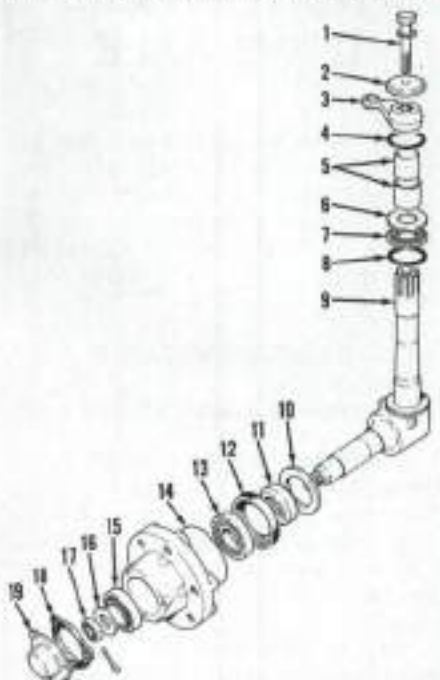

Fig. 1—Exploded view of typical front spindle assembly showing component parts and their relative positions.
1. A typical front wheel spindle, wheel hub and bearing assembly are shown in Fig. 1.
To adjust wheel bearings, tighten slotted nut (17—Fig. 1) to 95 N·m (70 ft.-lbs.) torque while turning the wheel. Loosen the nut, then retighten to 40 N·m (30 ft.-lbs.) torque while turning the wheel. Make certain wheel turns freely. Loosen nut, if necessary, to align hole for cotter pin, then install a new pin.
To remove spindle (9—Fig. 1), support front of tractor and remove wheel from
**NOTE:** If steering arm (3) is tight on spindle (9), reinstall cap screw (1) minus washer (2) and rap head of cap screw sharply to loosen steering arm. Care should be taken not to damage cap screw or threads in spindle.
Remove spindle and upper "O" ring (4—Fig. 1). Remove thrust washer (6) on all models and thrust bearing (7) on 1490, 1494, 1594 and 1690 models. On all models remove lower "O" ring (8).
Reinstall by reversing removal procedure making certain thrust bearing (7—Fig. 1) and thrust washer (6) are in proper sequence on 1490, 1494, 1594 and 1690 models. On all models, tighten steering arm retaining cap screw (11) to 163 N·m (120 ft.-lbs.) torque.